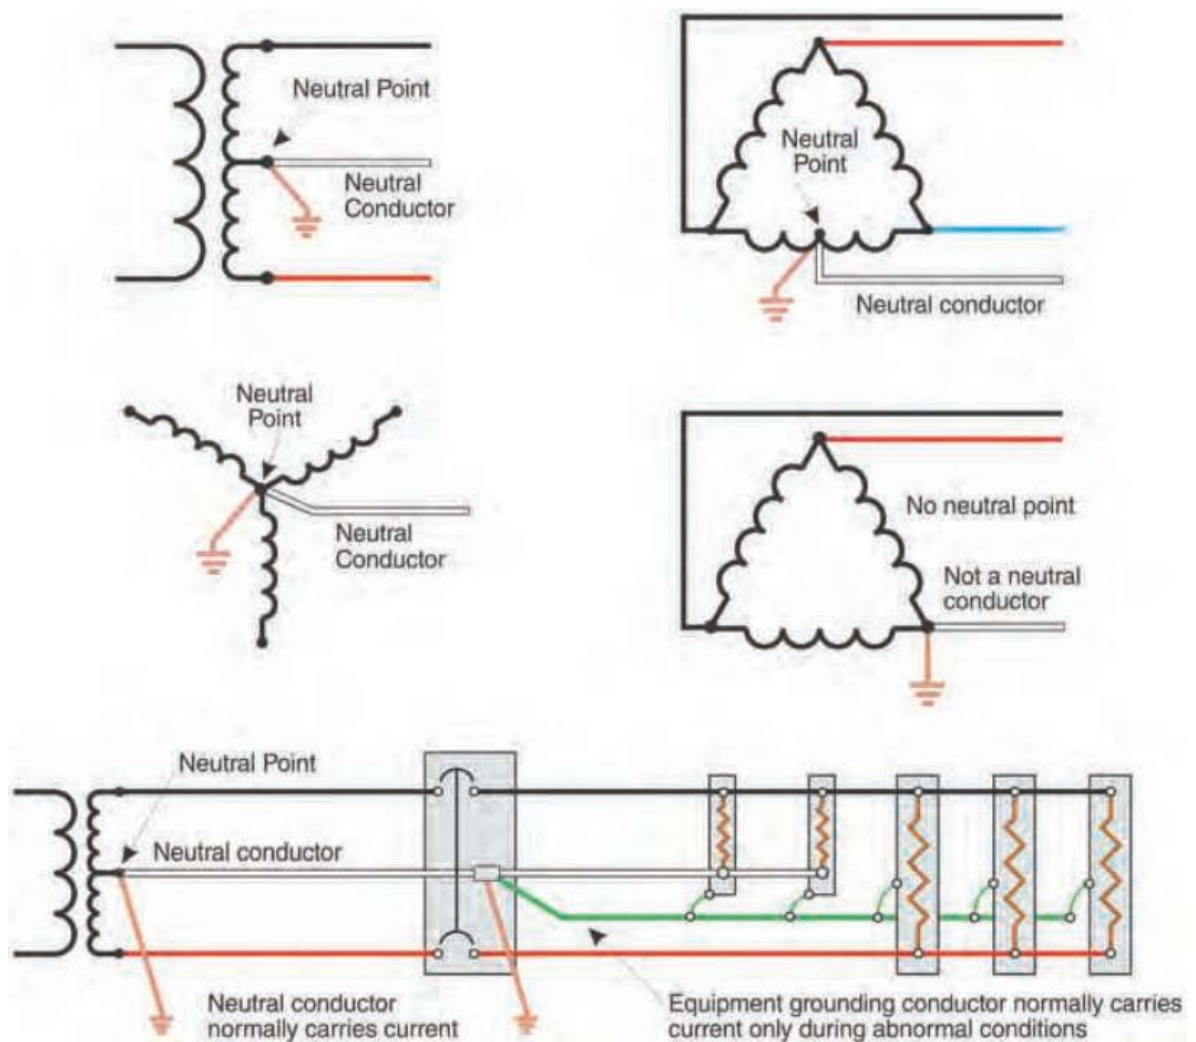

Figure 2-12 Neutral point and neutral conductor.
- **Neutral Conductor.** The conductor connected to the neutral point of a system that is intended to carry current under normal conditions.* See Figure 2-12. It is important to note that in this definition, the neutral conductor is expected to carry current under normal conditions, whereas the equipment-grounding conductor is expected to carry current only under abnormal conditions. Both connect to the neutral terminal bar at the service or source of a separately derived system.
- **Neutral Point.** The common point on a wye-connection in a polyphase system or midpoint on a single-phase, 3-wire system; or midpoint of a single-phase portion of a 3-phase delta system; or midpoint of a 3-wire, direct-current system.* See Figure 2-12.
- **Ungrounded.** Not connected to ground or a conductive body that extends the ground connection. * Electricians might use the term neutral or they might use the term neutral conductor when referring to the grounded circuit conductor. The lower two drawings on the right in Figure 2-12 show the location of a grounded conductor that is not a neutral.